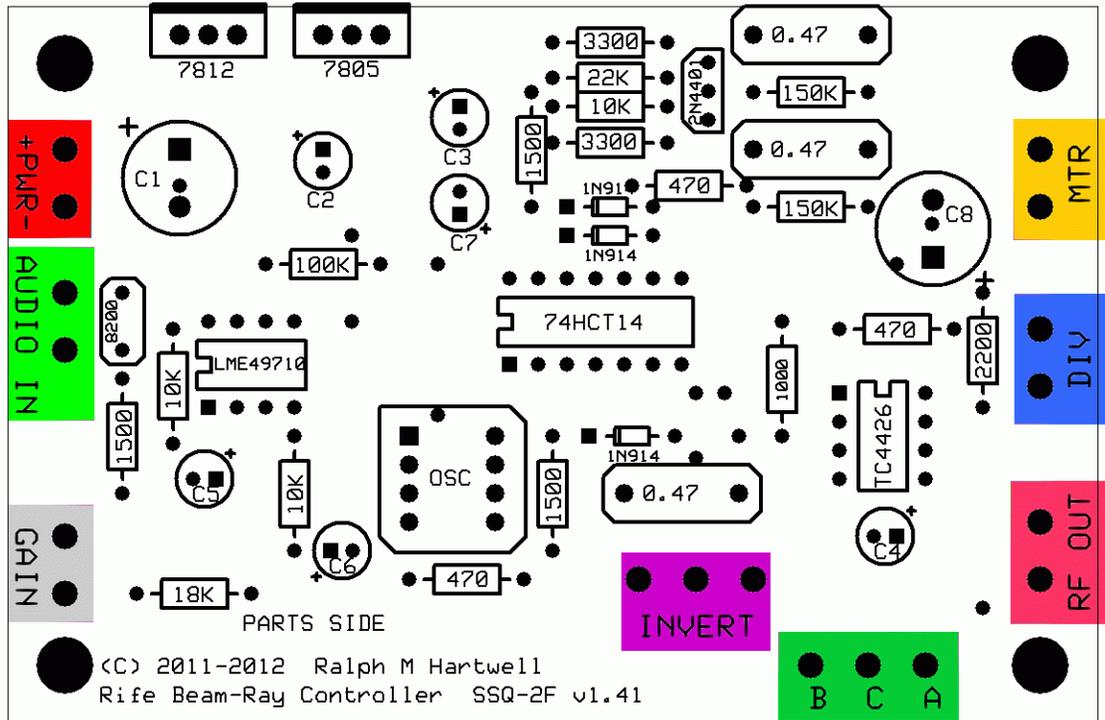

Figure 3 – SSQ-2F Connector Identification
**Please refer to Figure 3 for the location of the following connections.**